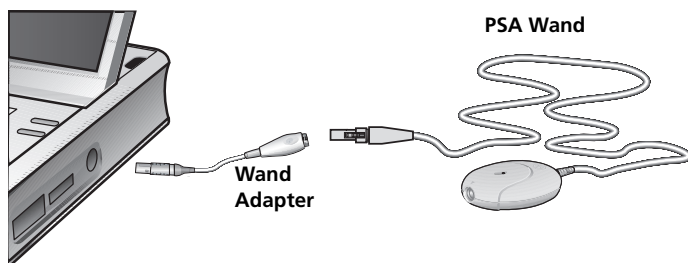

Figure 2-2. Connect the wand adapter to the Merlin PCS and PSA wand
1. Plug the Merlin wand adapter (Model 3615) into the “PSA” port on the right side of the programmer (Figure 2-2). The Merlin wand adapter plug has a locking mechanism to prevent accidental disconnection resulting in loss of communication.
2. Plug the PSA wand into the Merlin wand adapter (Figure 2-2). The PSA wand plug has a locking tab to prevent accidental disconnection resulting in loss of communication. The PSA wand and adapter can not be sterilized. For information on cleaning the PSA wand and adapter, see “Cleaning” on page A-3.